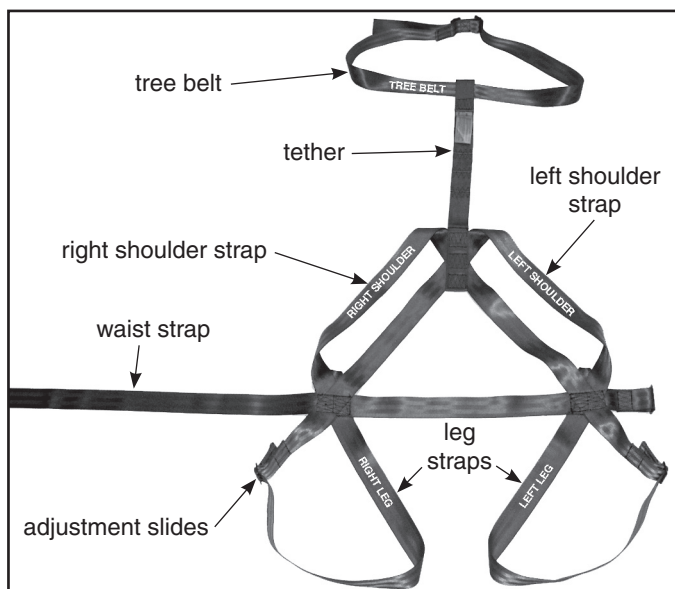

FIGURE 1
1. With the Full Body Harness (FAS) lying on the ground, familiarize yourself with all of its design and features. **SEE FIGURE 1.**